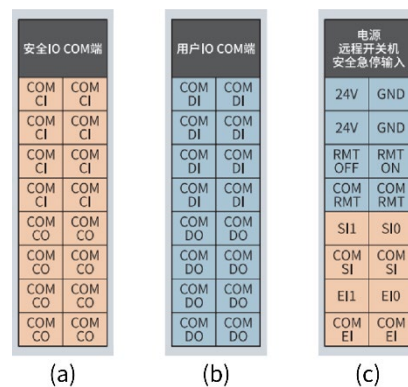

Figure 5-3 COM Ports
The AUBO-CB-iS(CE) and AUBO-CB-iS-H controllers adopt modular COM port architecture and provide refined signal management solutions, as shown in Figure 5-3. The COM port can be divided into two types: input and output types according to signal direction and function attributes. Detailed functions and instructions are as shown in Table 5-2.